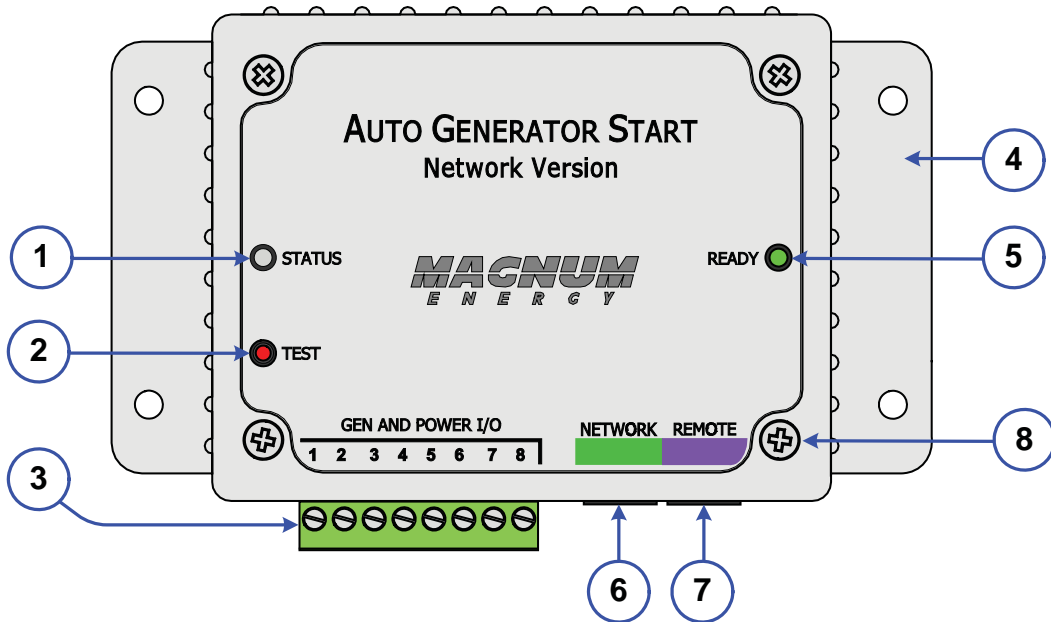

Figure 1-1, Components of the ME-AGS-N Module
The AGS module provides the generator’s wiring connections and the following components (refer to Figure 1-1):
1. Remove the 8-port terminal block from the module (Figure 1-1, Item 3). The terminal block is friction-fit, remove by pulling it straight out.